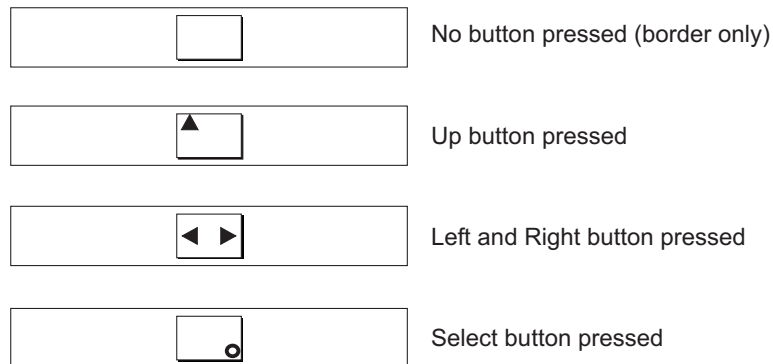

Figure 33. Front-panel display when push buttons are pressed
3. Press the up, down, left, and right buttons to verify that they are working. Figure 33 shows four examples of what the front panel should display when you press the buttons. After you finish testing the buttons, press and hold the select button for five seconds to exit the test.